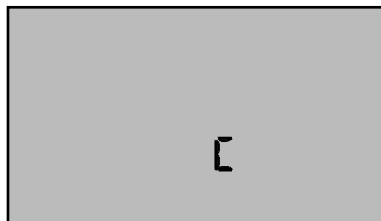

Figure 6
3. Press  repeatedly until you pass the memory “CLF ALL” location”. The display will show a “C” or “F” (see Figures 6 & 7).